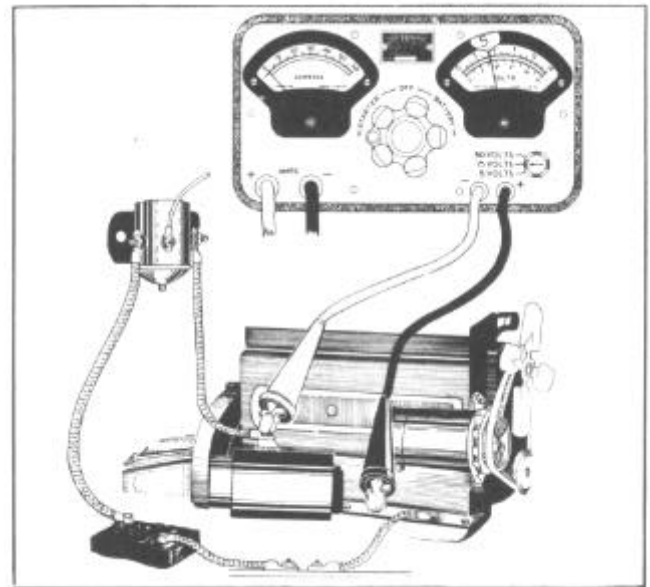

FIGURE 4
1. Connect the negative voltmeter lead of the starter motor tester to the starter switch terminal, Figure 4.